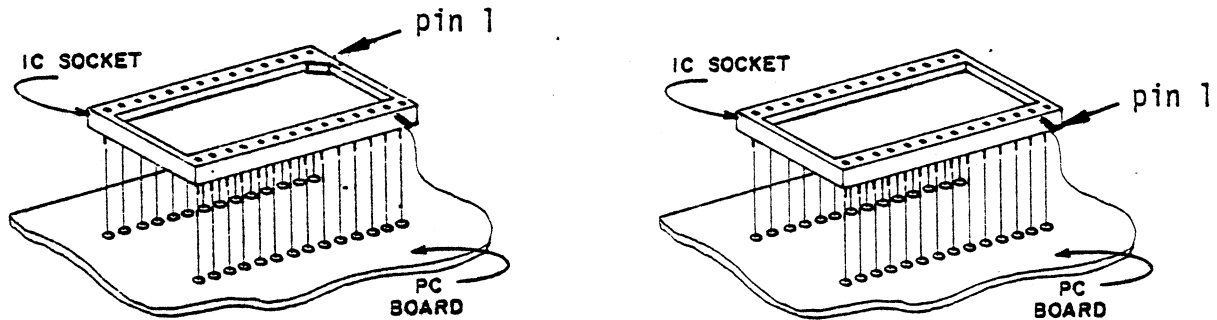

Figure 4-7. IC Socket Orientation
1. Refer to Figure 4-7, and orient the socket so that pin 1 coincides with the arrowhead on the board. Set the socket into its holes and secure with masking tape.